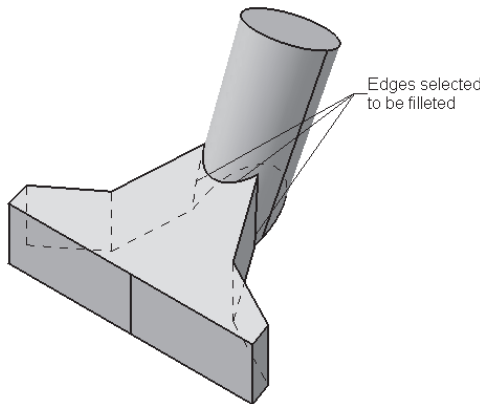

Figure 6-81 Edges to be selected
- Apply fillets to all edges of the model, refer to Figures 6-81 through 6-84.
2. Select the edges, as shown Figure 6-81, and set the value of the **Radius** spinner to **12**.